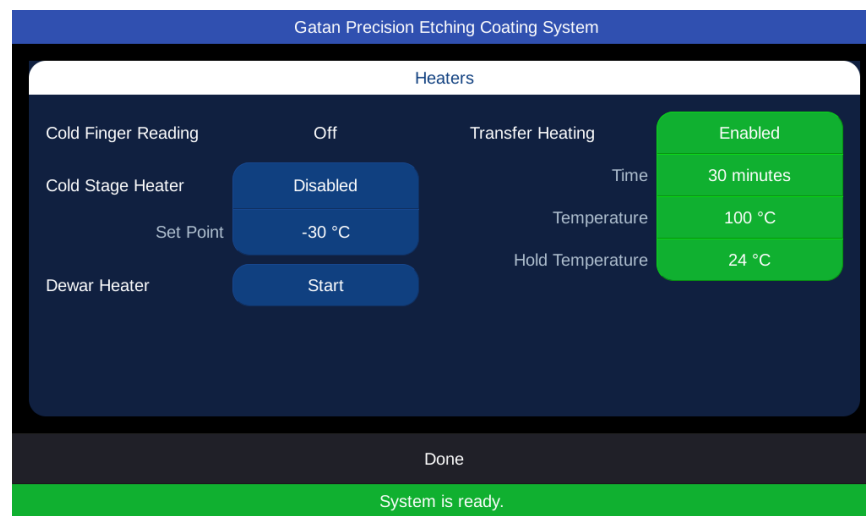

Figure 8-3 Heaters Page.
5. Set the cold stage heater to -30° C and enable the heater. See Figure 8-3. This is the recommended temperature for most samples and sample mounts. If desired, the heater may be set to a lower temperature, or left